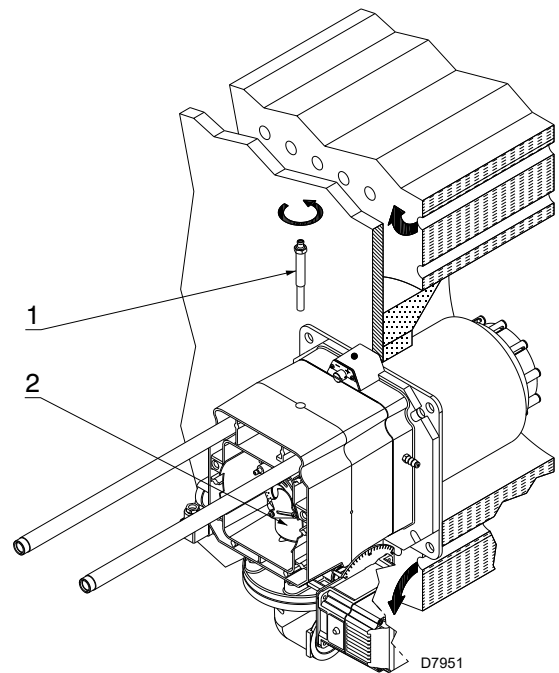

Fig. 14
- remove the screw 1)(Fig. 14)
- extract the inner part 2)(Fig. 14) of the head, and adjust them.
At this point of the installation, the combustion head is fixed to the boiler as shown in Fig. 14. It is therefore especially easy to adjust, and this adjustment depends only on the maximum output of the burner.